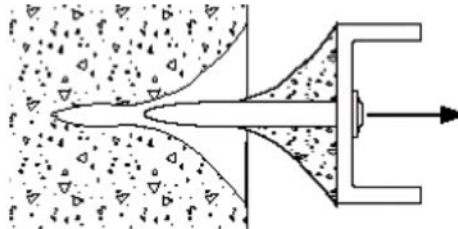

Fig. 3
2. The concrete/masonry itself may fail. (see **Fig. 3**).